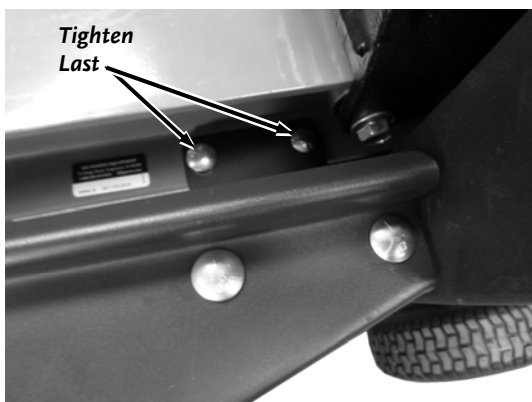

Figure 9
10. Last, tighten the four Bolts and Locknuts that secure the Cradle Extension Mounts to the Beam (**Figure 9**).